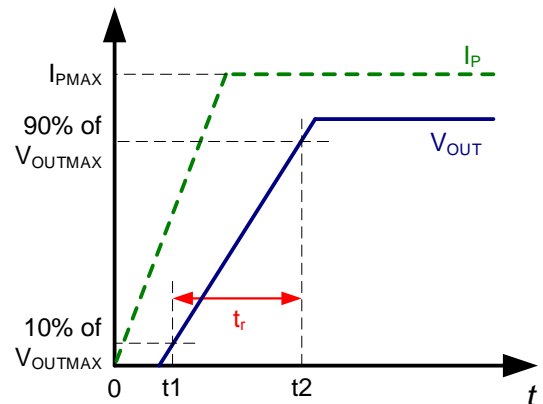

Figure 6: Rising Time ( $t_R$ )
2.  $t_2$ : The sensor's  $V_{OUT}$  reaches 90% of its full-scale value (see Figure 6).